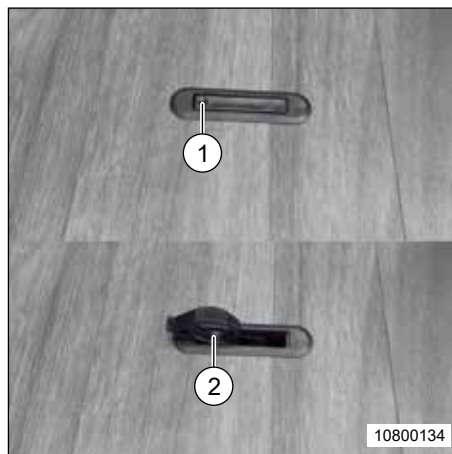

Fig. 38 Storage compartment hatch flush catch
- Press the flush catch downwards at the marking (Fig. 38, Pos. 1), The hatch handle flips upwards.
- Lift the hatch on the hatch handle (Fig. 38 Pos 2).
- Close the hatch and pivot the hatch handle (Fig. 38, Pos 2) back in.